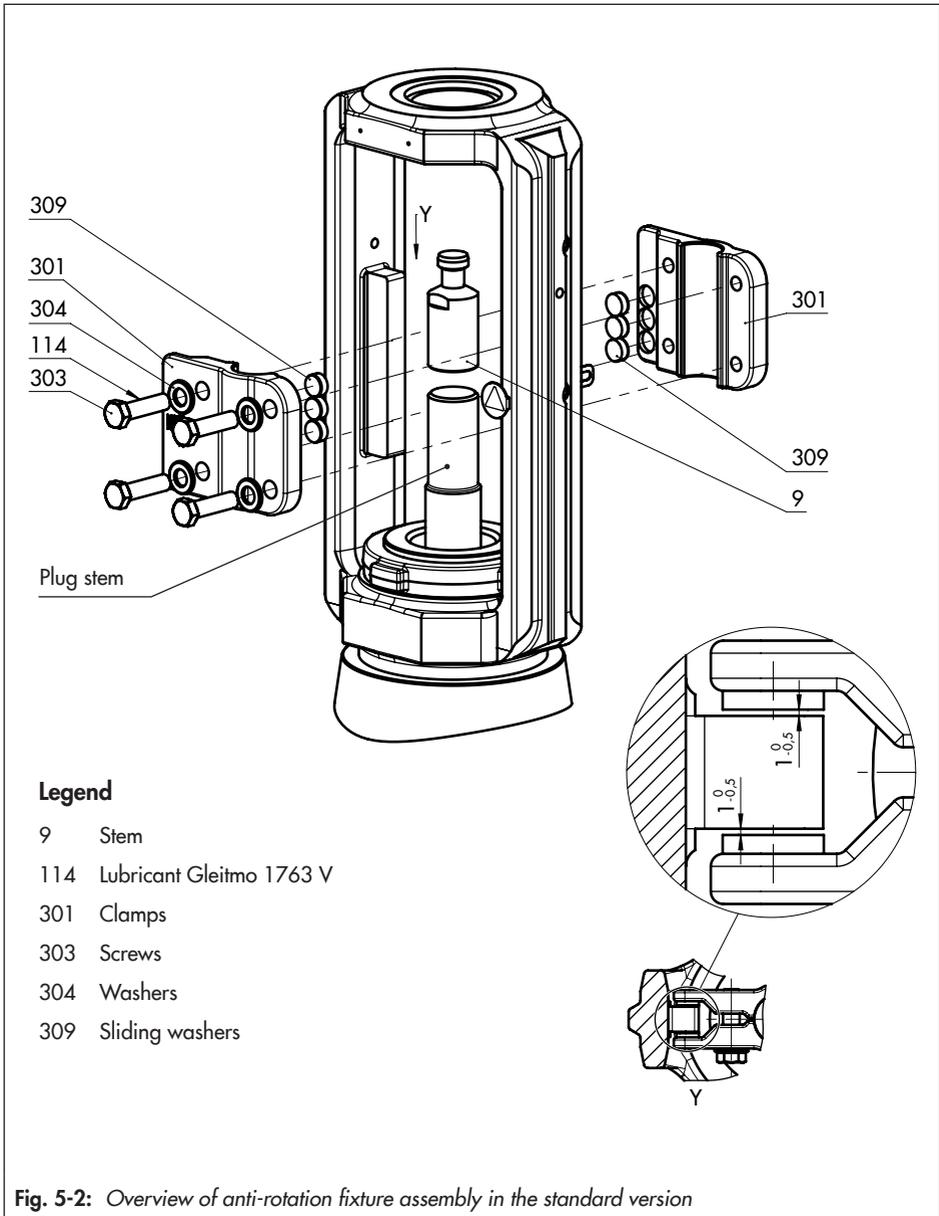

Fig. 5-2: Overview of anti-rotation fixture assembly in the standard version
See Fig. 5-1 and Fig. 5-2
- There is a nominal clearance of 0.5 to 1 mm between the sliding washers and their contact surface on the yoke on each side (see detailed view Y in Fig. 5-2).